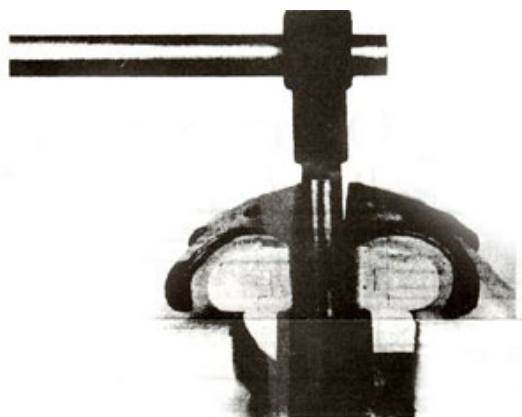

Figure 1. Piston Rod in Vise
1. Secure piston rod in vise (with soft jaws to prevent possible scoring) as close to pivot end as possible. (Figure 1)
16. Secure piston rod in vise as close to pivot end threads as possible. (Figure 1)